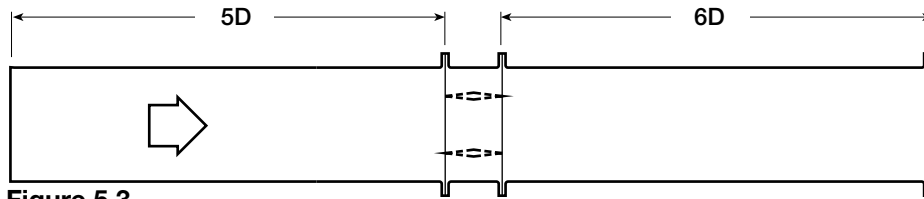

Figure 5.3
**Figure 5.3** Illustrates a fully ducted damper. This configuration has the lowest pressure drop of the three test configurations because entrance and exit losses are minimized by straight duct runs upstream and downstream of the damper.